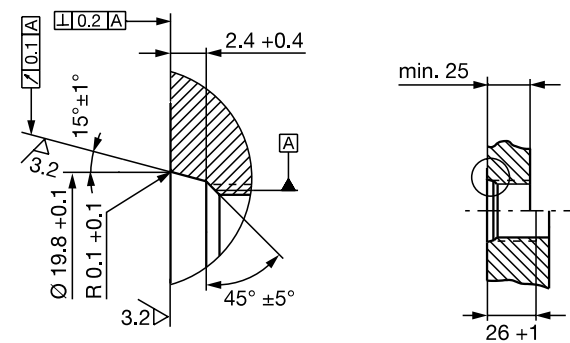
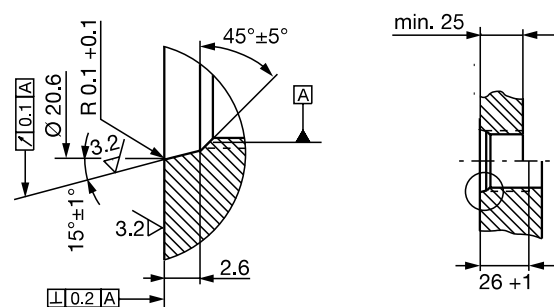

Fig. 4-3: Threaded hole M18×1.5 per ISO 6149, O-Ring 15.4×2.1
Fig. 4-4: Threaded hole 3/4"-16UNF per SAE J475, O-ring 15.3×2.4
- ▶ Construct threaded hole (and, if needed, recess for the O-ring) as per Fig. 4-3 and Fig. 4-4.